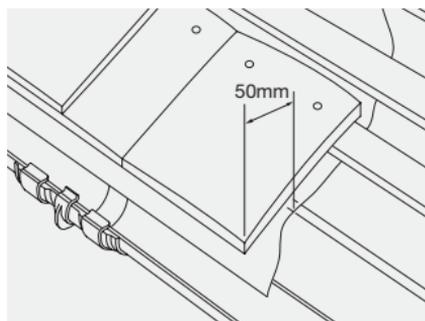

Fig. 11 – Ensure sufficient overhang into gutter
- 3 If gutter is not fixed, an overhang of 50mm should be allowed (Fig. 11).